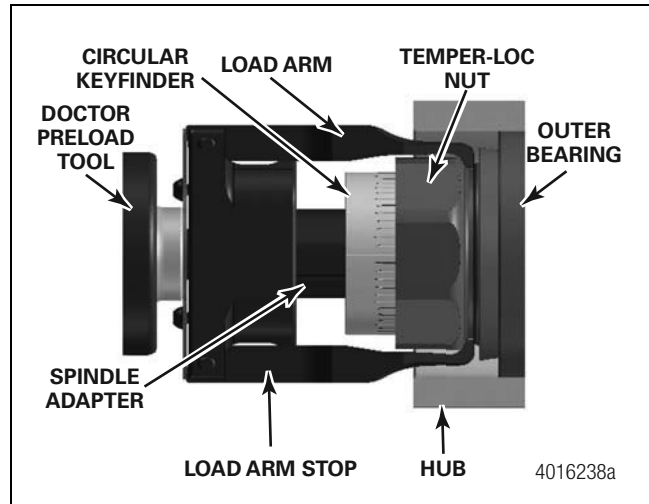

Figure 4
2. Hold Doctor Preload by the Gauge Guard Handle with one hand, or alternatively, by cradling the main body of the tool in the palm of one hand and the Circular KeyFinder with the other hand. Locate the position of the keyway on the spindle. Rotate the Circular KeyFinder until the Key is approximately lined up with the keyway. Using a sweeping motion, guide the spring-loaded load arms around two flats of the nut (not over any of the “points” of the nut) while slightly rotating the Circular KeyFinder until the Key is engaged in the keyway. Carefully engage the spindle adapter thread on the spindle until the O-ring in the spindle adapter bottoms out against the spindle face. Figure 4.
3. At this point, the inner surfaces of both of the two load arms should be flat against the sides of the load arm stops. If one or both are skewed out of alignment, slowly push and pull the load arm assembly along the shaft until the tips of the load arms spring into their correct position behind the Temper-Loc nut. Check to be sure the load arms are correctly located in the backface relief of the Temper-Loc nut and making contact with the outer bearing cone. Figure 4.